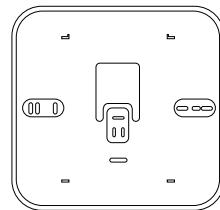

Fig. 10
- If necessary, install the mounting plate to the electrical box included in the kit (Fig. 10).
When the batteries are nearing exhaustion, the display shows "  " (Fig. 10).